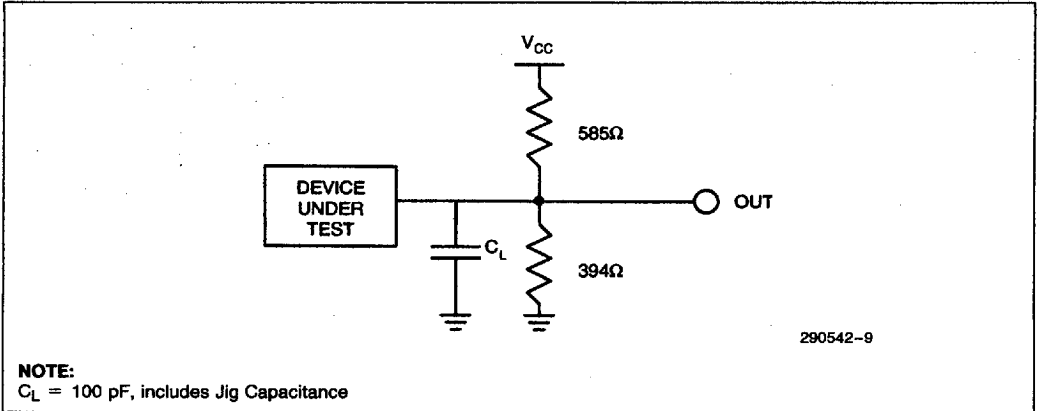

Figure 9. 5V Standard Test Configuration
5. See 5V High Speed Test Configuration. (Figure 9)